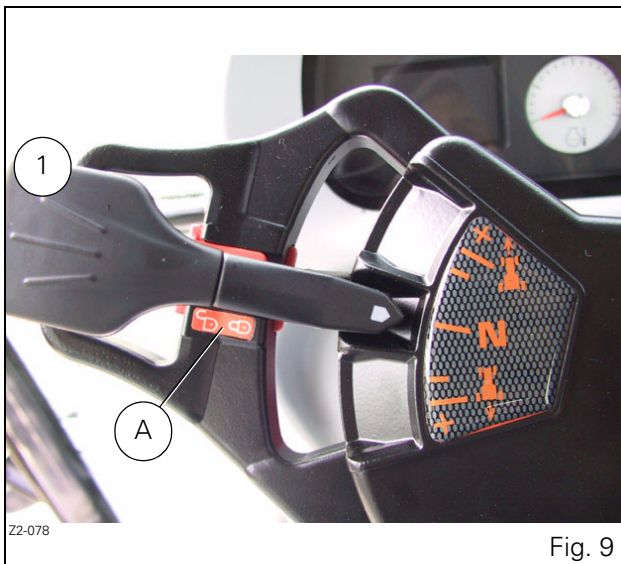

Fig. 9
**DANGER:** Before leaving the seat it is mandatory to move the PowerShuttle control (1. Fig. 9) to NEUTRAL position and engage the brake control on steering wheel ref. A ParkLock.